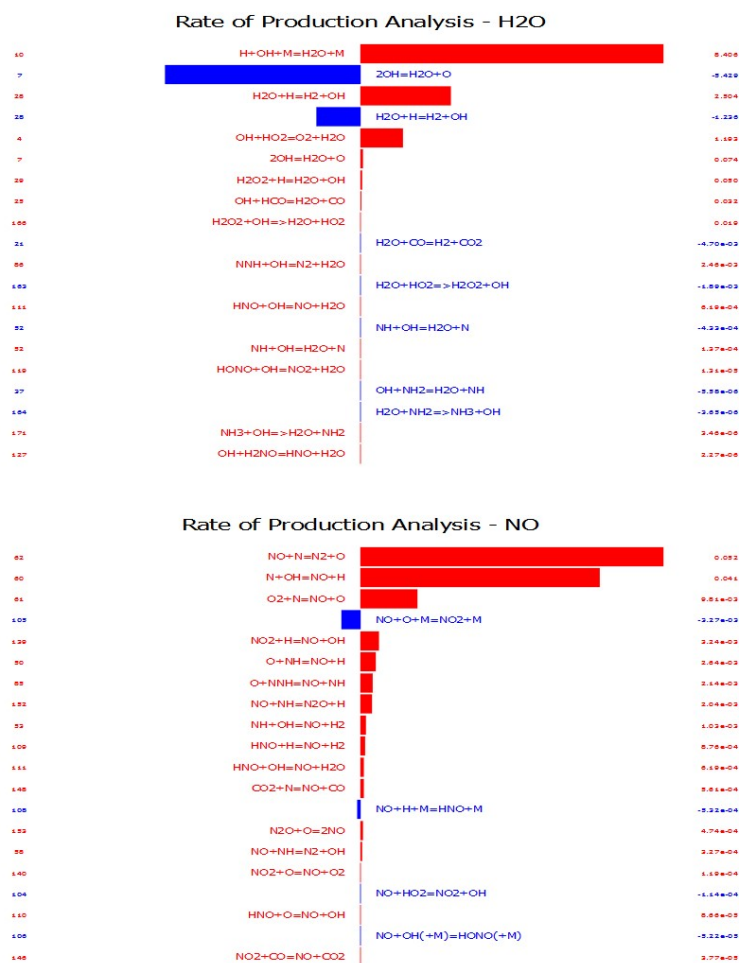

Figure 3.4: Adiabatic batch reactor: rate of production analyses for  $\text{H}_2\text{O}$  and  $\text{NO}$  as calculated by using the OpenSMOKE++ PostProcessor.
4. More interestingly, you can perform rate of production analysis for each species in the kinetic scheme through the **Plot ROPA bars** button (see Figure 3.4).